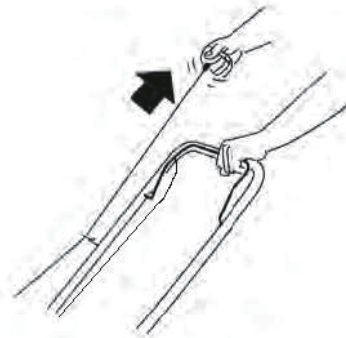

Fig. 12
3. Hold blade control bar then pull the cord to start the mower. (Fig. 12)